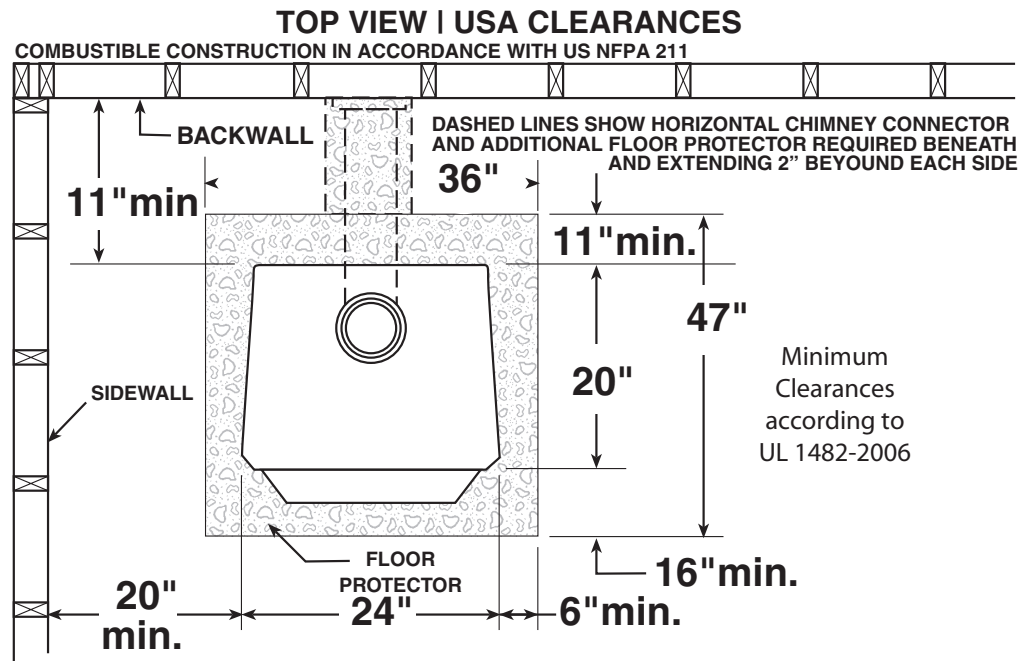

Fig. 10 – TOP VIEW Minimum Clearance Dimensions from Combustible Surfaces
1. The stove must be placed on solid concrete, solid masonry, or when installed on a combustible floor, on a listed floor protector, such as Hy-C or Imperial Model UL3648BK or equivalent. Floor protector must be 1/2" minimum thickness (R value = 0.84, see page 21 for calculation formulas) non-combustible material or equivalent. The base must extend at least 16" beyond the front of the access door, 6" to the sides of fuel opening, and 11" beyond the rear. It must extend under and 2 inches beyond either side of the stove pipe if it is elbowed towards a wall. (See figures 10 & 12 and consult local building codes and fire protection ordinances.)
3. After observing the clearances to combustible materials (figures 10–12), locate your floor protector accordingly (figure 10) and carefully place the stove in your selected location. Install connector pipe, elbows, and thimble as required, utilizing either a recently cleaned and inspected 6" lined masonry chimney or a 6" i.d. listed manufactured chimney.
5. Recheck clearances from the stove, connector stove pipe, and corner clearances using the illustrations in figures 10–12 and your local building codes or fire protection ordinances.